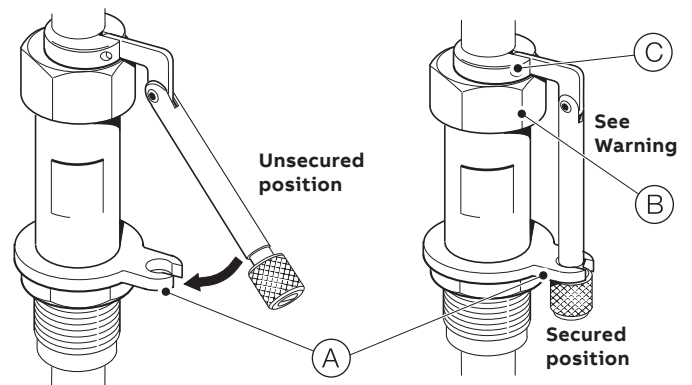

Figure 19 Safety mechanism
- The insertion sensor is provided with a safety mechanism that must be attached to its securing collar (A) as shown in Figure 19 (**Secured position**). This prevents rapid outward movement by the insertion sensor if nut (B) is released.
- To ensure maximum safety, the positioning collar (C) **MUST** be tightened in place using a 4 mm hexagon key.